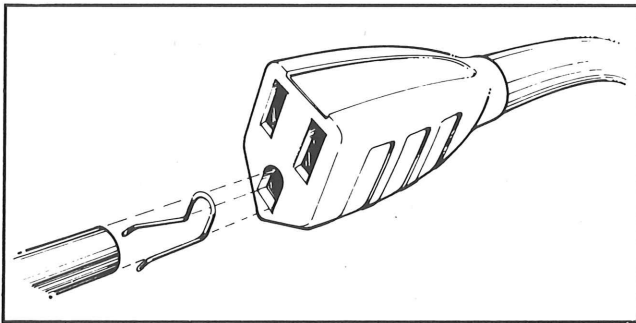

Figure 3. The grounding clip is inserted in the ground receptacle of a power cord with a special tool (P/N 003-0744-00).
between the grounding pin and receptacle. For the past ten to twelve years, people at Tektronix have been testing replacement three-wire cords for conductor continuity, polarity and short circuits. At the completion of the testing a spring, part no. 214-0698-00, is installed in the female ground receptacle (see Fig. 3).
3. Insert a grounding spring in each female ground receptacle as in Fig. 3. These springs were not meant for use in ground receptacles of bench and wall outlets, and should not be installed in them. Faulty plugs on benches or wall outlets should be replaced.